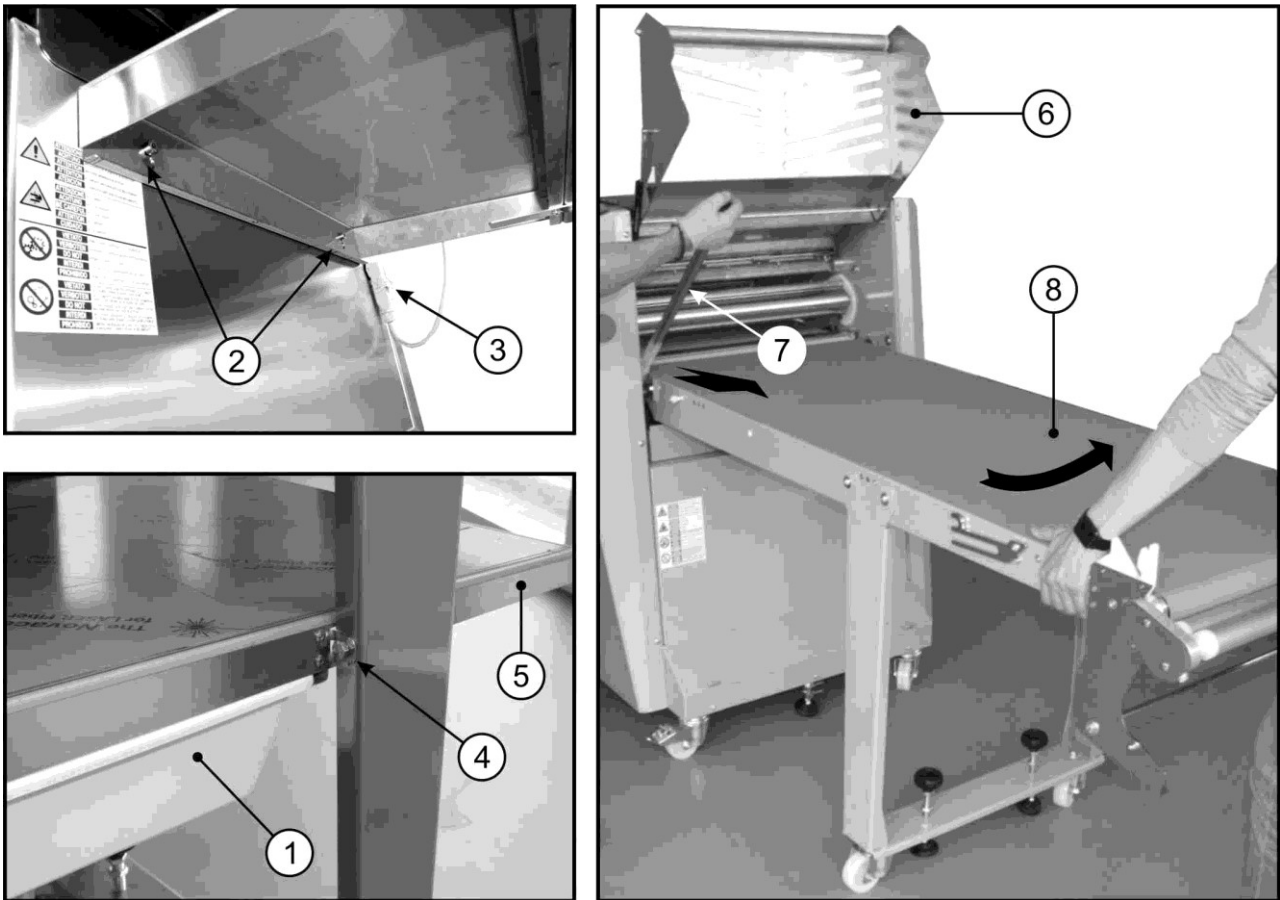
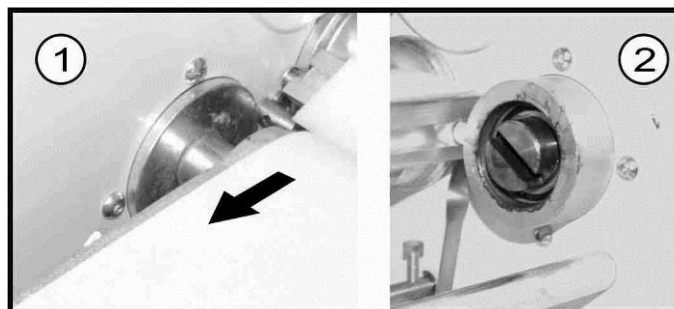

Figure 10
Figure 11
To correctly assemble the tables, two people must operate as described hereafter and in accordance with Figure 10 and Figure 11:
- Remove the two trays, Ref.1 Figure 10
- Slightly loosen the two screws that fasten the intermediate table, Ref.2 Figure 10
- Disconnect the switch, Ref. 3 Figure 10
- Loosen and remove the two screws that fasten the intermediate table to the legs, Ref. 4 Figure 10
- Remove the intermediate table, Ref.5 Figure 10, inclining it vertically to facilitate its removal
- Lift the relative guard, Ref.6 Figure 10
another operator firmly holds the table level, Ref. 8 Figure 10, and rotates it in the direction of the arrow
- Move the table closer checking that the coupling is properly inserted into the slot, Ref. 2 Figure 11.
- Move the belt forwards and backwards in the direction of the arrow, Ref. 1 Figure 11, so as to correctly insert it inside the slot, until you hear a clicking sound and the belt locks in position.